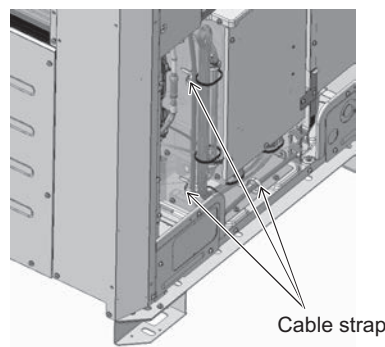

Figure 6
- (7) Remove the cable straps holding motor wiring. (See Figure 6.)